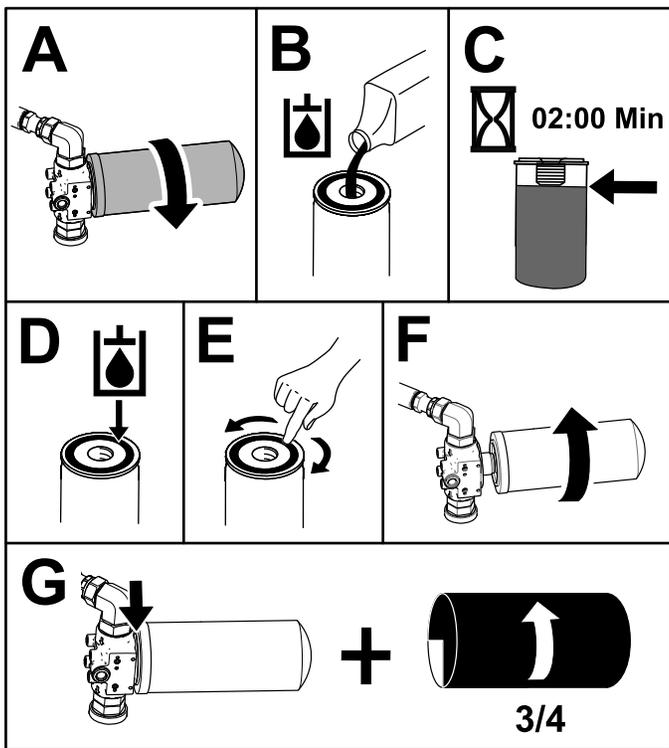

Figure 80
5. Place a drain pan under the front filter and replace the filter (Figure 80).